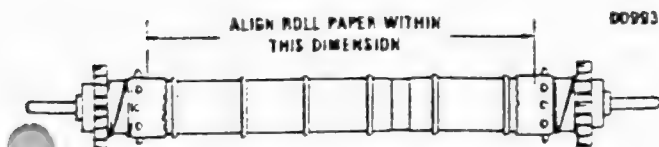

Figure 2-3 Paper Drive Roller
10. Remove any skew between paper roll and the paper-drive roller by sliding the roll on the holder axle to align the paper as shown in Figure 2-3.